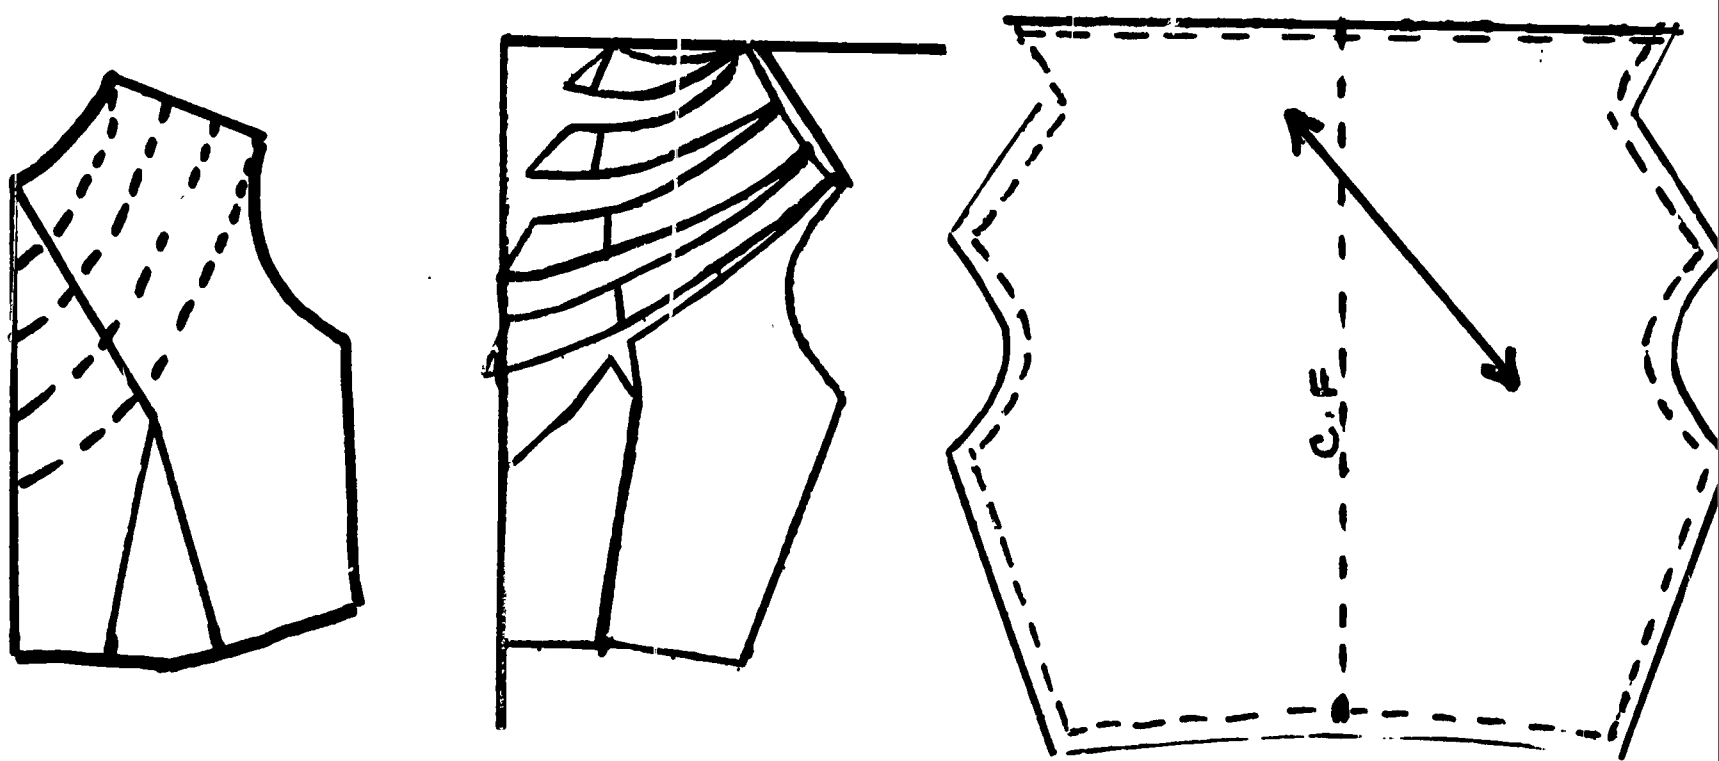

Fig. 163
4. Draw a squared line on a new piece of paper (see Fig. 163).